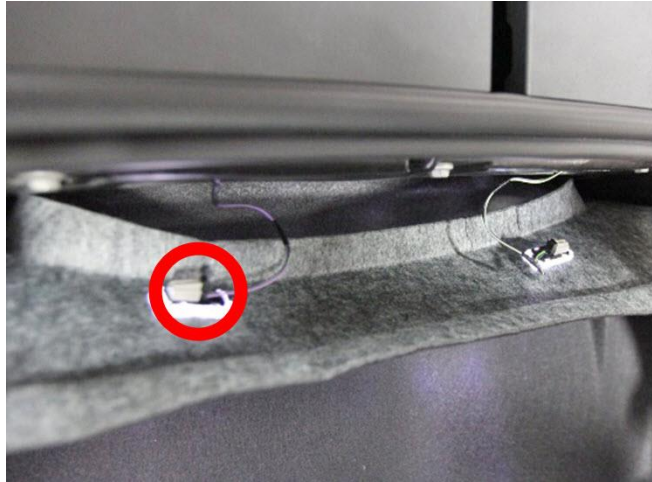

Figure 15. Underhood storage unit carpet lamp electrical connector
- g. Disconnect the underhood storage carpet lamp electrical connectors (Figure 15).